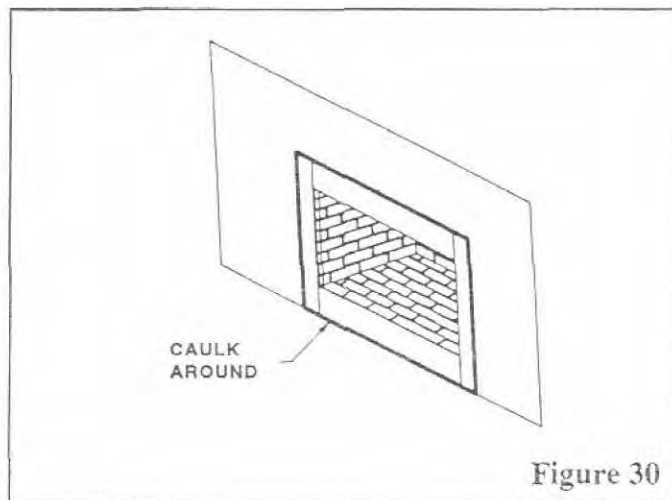

Figure 30
3) Carefully check and caulk all cracks around the fireplace where cold air could enter the room as illustrated in Figure 30. As a final caution, carefully caulk the finish trim around the front of the fireplace between the trim and the fireplace to prevent the entry of cold air and/or the escape of warm air.